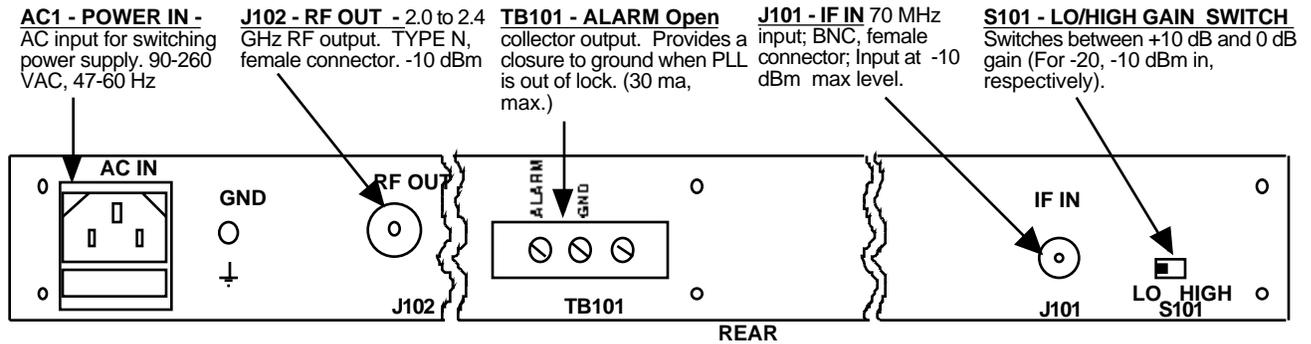

FIGURE 2.1 2088-24 Rear Panel I/Os and Level Control
2.2 Rear Panel Input/Output Signals and Level Control - Figure 2.1 shows the input and output connectors on the rear panel.
- 1.) Connect a -10 dBm to -20 dBm signal to IF In, J101 (Figure 2.1).
- 2.) Select +10 (HI) for -20 dBm in or 0 (LO) for -10 dBm in gain with switch S101 (Figure 2.1).
- 3.) Connect the RF OUT, J102, to the external equipment (Figure 2.1).
- 5.) Connect 90 - 260 VAC, 47 - 63 Hz to AC1 on the back panel (Figure 2.1).